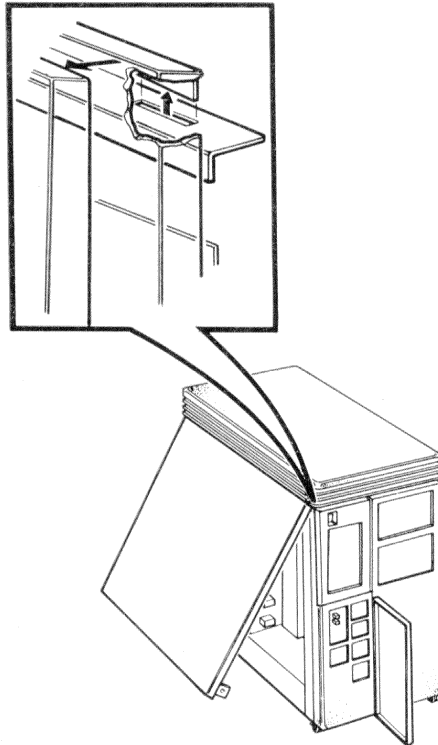

Figure 6-4 Unhooking the Left Side Panel
3. Loosen the screw that connects the left side panel to the front of the enclosure frame. (Figure 6-4)